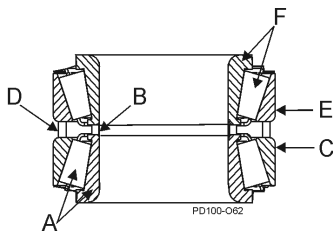

Figure 78 - Bearing Assembly
NOTE: DO NOT interchange the parts of one bearing assembly with another. The parts are precisely matched during manufacturing and must be installed as a matched assembly. See Figure 78.
3. Lift the lower cone and roller assembly (Figure 78, item A) out of the bearing stack and place it on the shaft with the radius facing down. Press it onto the shaft until it is seated against the shaft shoulder. **Press only on the inner cone.**